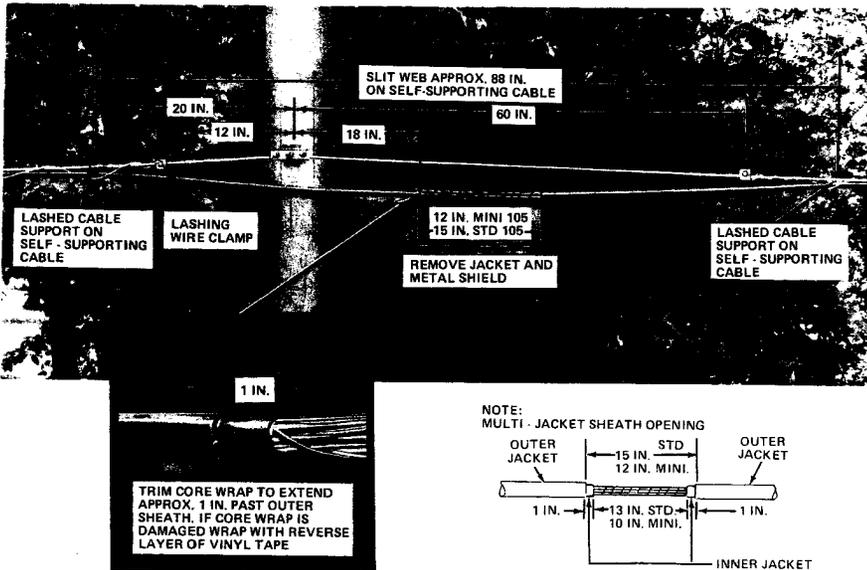

Fig. 15—Preparing Cable
4.01 Figure 15 shows the sheath preparation and dimensions for the 105-type cable terminals.